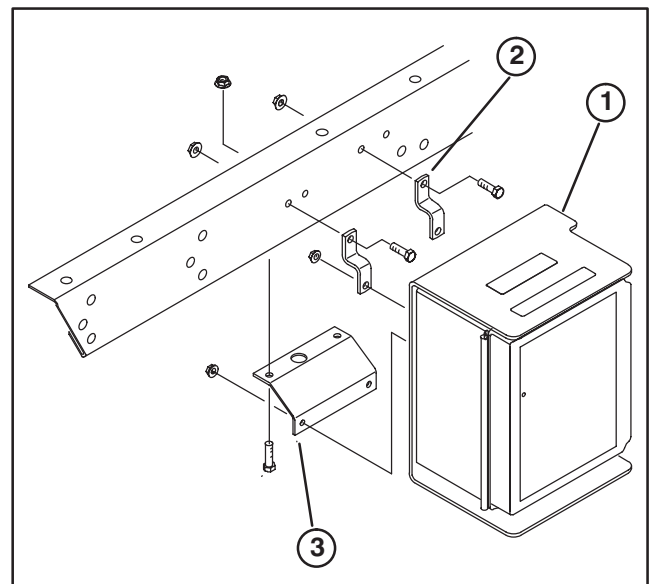

Figure 12
45. Loosely secure (2) mounting tabs and mounting bracket to control box bracket with (4) 1/4–20 flange locknuts, as shown in figure 12.
46. Mount control box assembly to left frame rail with (4) 5/16–18 x 3/4" lg. capscrews and nuts (Fig. 12).